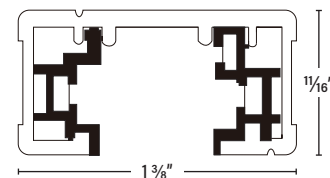

Fig. 1
2. Make sure the fixture's fitting is an H Type and compatible with the H track system (Fig. 1) *Note: the H type fitting is only compatible with single-circuit track types.*